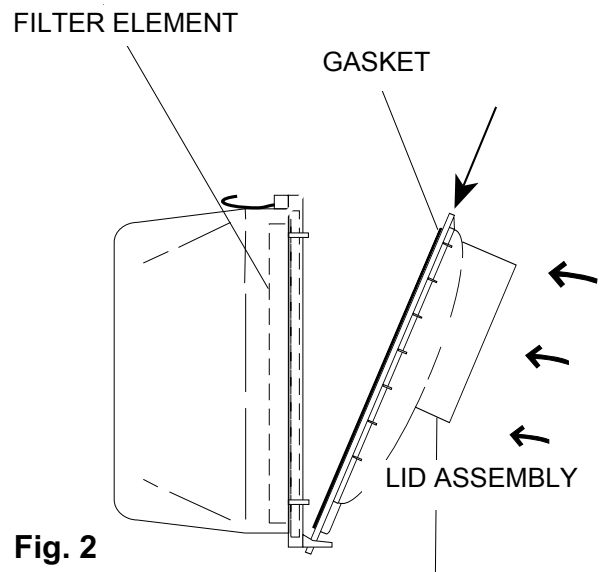

Fig. 2
- 8) Insert the tabs of the airbox lid into the receptacles of the airbox base. (Fig. 2)
- 9) Pivot the lid towards the base while applying downward pressure on the lid to keep the tabs fully inserted into the airbox base. (Fig. 2)